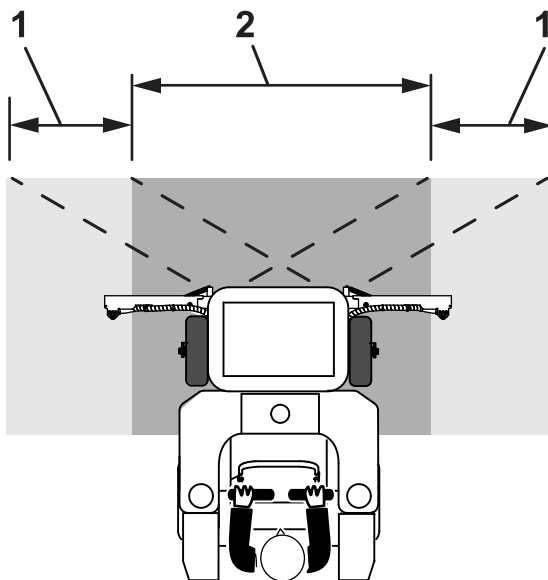

Figure 44
- Do not overlap the effective spray area that you have previously sprayed (Figure 44).